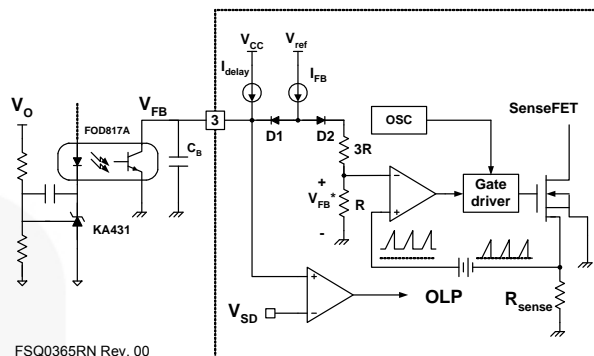

Figure 21. Pulse-Width-Modulation (PWM) Circuit
2. Feedback Control: FPS employs Current Mode control, as shown in Figure 21. An opto-coupler (such as FOD817A) and shunt regulator (such as KA431) are often used to implement the feedback network. Comparing the feedback voltage with the voltage across the R_{SENSE} resistor makes it possible to control the switching duty cycle. When the reference pin voltage of the shunt regulator exceeds the internal reference voltage of 2.5V, the opto-coupler LED current increases, pulling down the feedback voltage and reducing the duty cycle. This event typically occurs when input voltage is increased or output load is decreased.
2.1 Pulse-by-Pulse Current Limit: Because Current Mode control is employed, the peak current through the SenseFET is limited by the inverting input of PWM comparator (V_{FB}^*), as shown in Figure 21. Assuming that the 0.9mA current source flows only through the internal resistor ($3R + R = 2.8k\Omega$), the cathode voltage of diode D2 is about 2.5V. Since D1 is blocked when the feedback voltage (V_{FB}) exceeds 2.5V, the maximum voltage of the cathode of D2 is clamped at this voltage, clamping V_{FB}^* . Therefore, the peak value of the current through the SenseFET is limited.